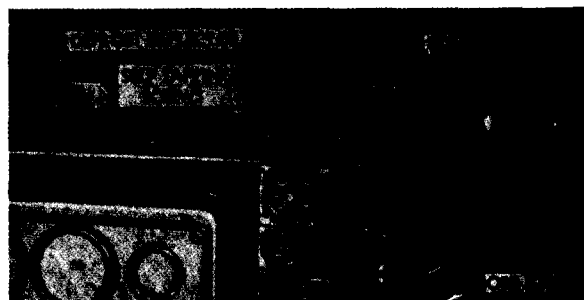

Figure 684. Defrost deflector installation details.
- (7) Remove and retain one nut and washer attaching fender bracket to running board hanger and attach final, lowest clamp to bracket using original, existing screw and nut retained above.
k. Install Defrost Reflectors (Fig. 684).
- (1) Lay right defrost deflector 10896407 along top of instrument panel so that window handle can be operated within deflector cut out.